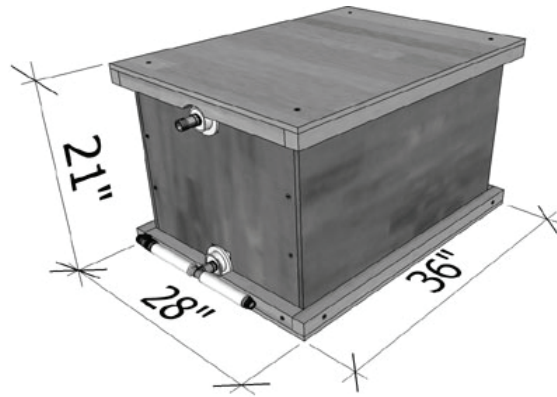

Fig. 10 – Finished dimensions and fittings
- b. **Prepare an area**, at least 30"x40" (fig. 10) to place your RainBench™ on washed stone or pea gravel (no fines), or by raising your RainBench™ slightly off from the ground so moisture does not sit on or against any wood product. Seal wood using multiple coats of outdoor wood sealer to extend life.